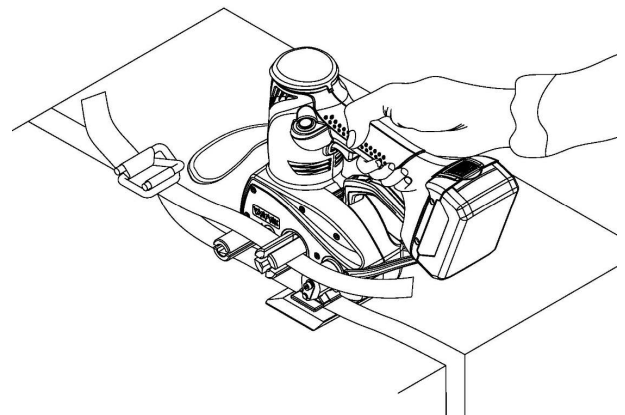

FIGURE 10.
- It is not necessary to install the Cutter & Sleeve assembly (5.3.2.1) and Cutting Lever (5.3.2.2). If installed, just remove them or the upper strap should go above the Cutter Sleeve and then insert into the slot of Windlass as (FIGURE 10) shown.